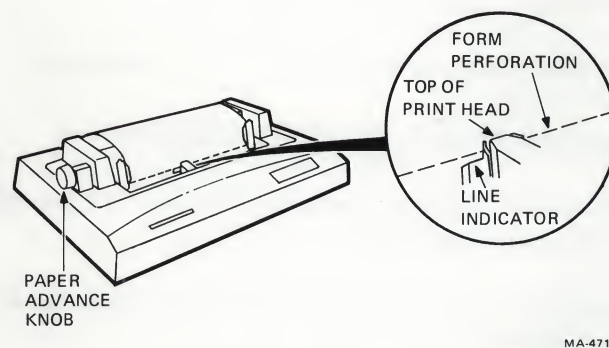

Figure 1-17 Aligning Top of Form
11. Use the paper advance knob to set the form perforation half way between the line indicator and the top of the printhead (Figure 1-17).
4. Use the paper advance knob to set the form perforation half way between the line indicator and the top of the printhead (Figure 1-17).